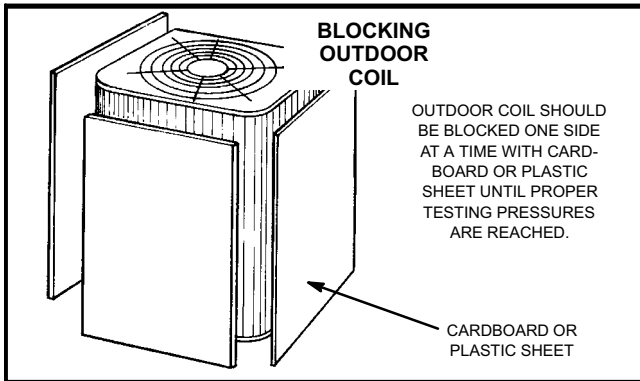

FIGURE 22
- If ambient temperature is less than 60°F (10°C), system should be charged using the subcooling method. Air flow will need to be restricted to achieve pressures in the 200-250 psig range (See figure 22.) These higher pressures are necessary for checking the subcooling temperature. Block equal sections of air intake panels, moving obstructions sideways as shown until liquid pressure rises above 200 psig.